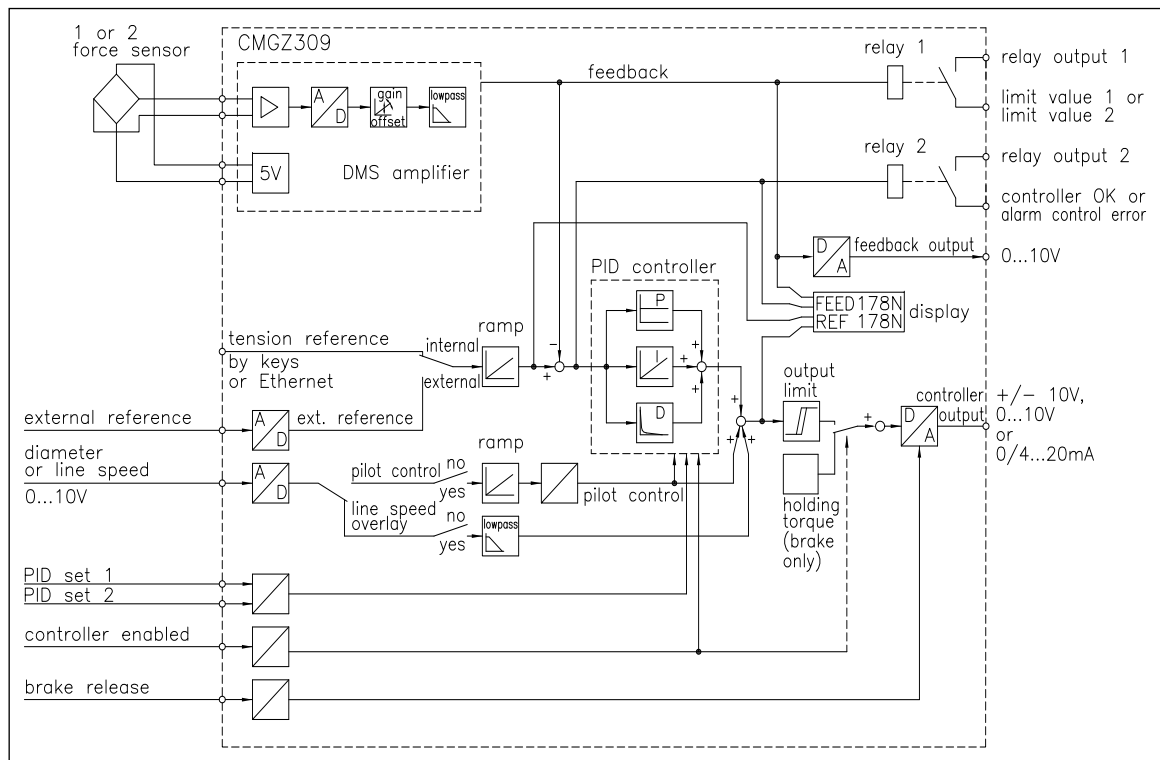

Fig. 1: Block diagram CMGZ309
- Controller output configuration w/r to signal level (see **Fig. 1**)